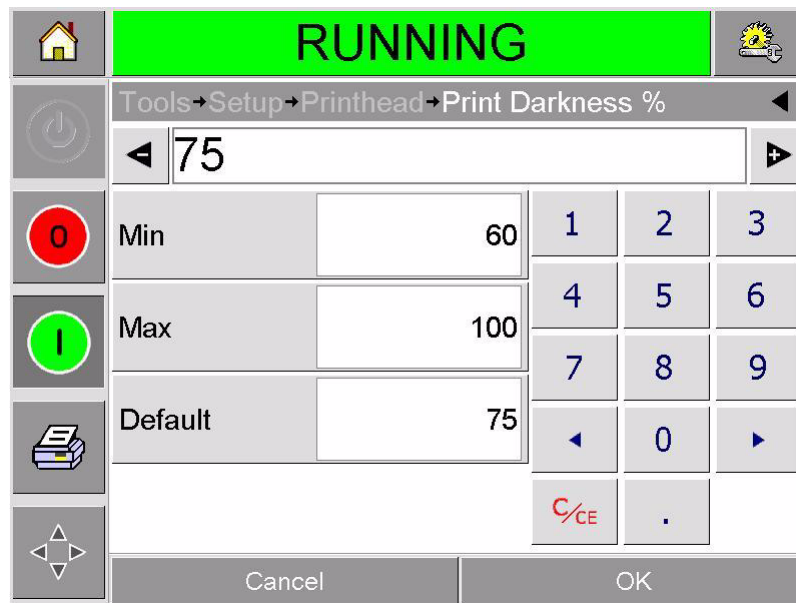

Figure 4-16: Print Darkness Setting
- 4 Touch the Print Darkness button to open the print darkness setup page (Figure 4-16 on page 4-18).